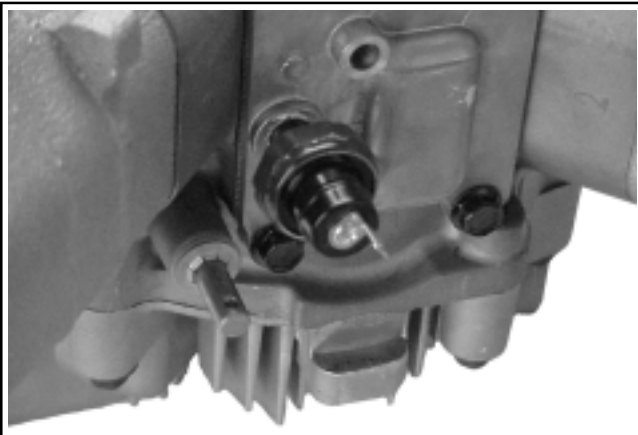

Figure 9-57. Removing Oil Sentry™ Switch.
1. Remove the Oil Sentry™ switch, from the breather cover. See Figure 9-57.